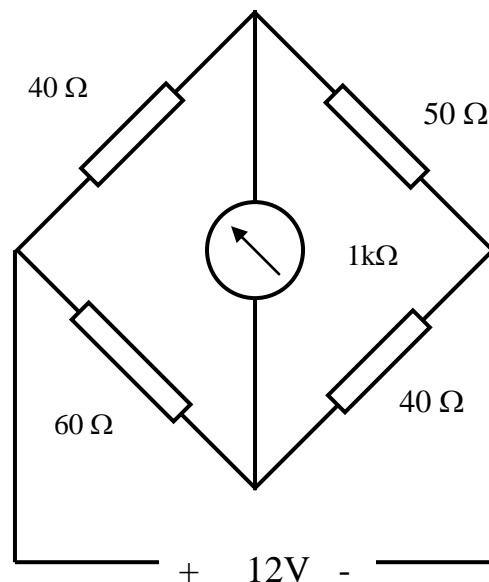

Fig Q1
1. Determine EACH of the following, for the circuit shown in Fig Q1: